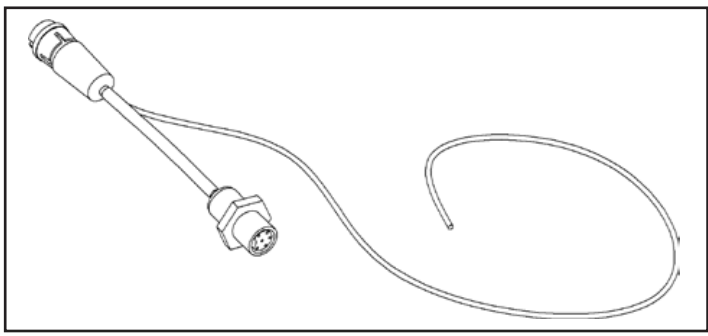

FIGURE 5A
6. 4-20mA output (optional): For those looking for the capability to transmit the UV intensity data to a remote location via a 4-20 mA signal, an optional "Y" cable is available from your dealer (Figure 5A). Please order PN 260134. This "Y" cable comes with 20 meters (65') of cable for the 4-20 mA signal. To install, first remove the existing sensor cable from the Cobalt "Plus" controller (Figure 5B) and affix the new "Y" cable (Figure 5C). Next, attach the "male" end of the existing sensor cable to the "female" end of the new "Y" cable. Appropriately attach the 4-20 mA cable to the applicable equipment and ensure all connections are hand-tight.